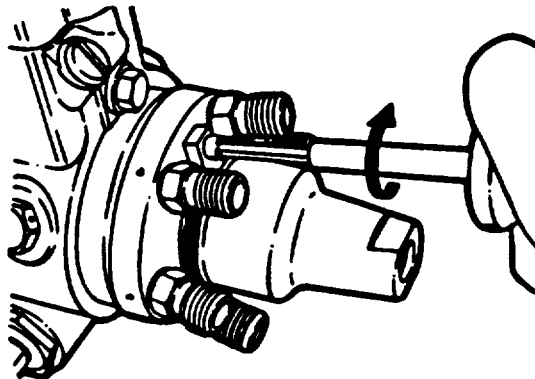

FIGURE 3-106. Installing Retaining Plate
co. Install new seal (4, FIGURE 3-73), retaining plate (3), and locking screw (2) in head, refer to FIGURE 3-106.